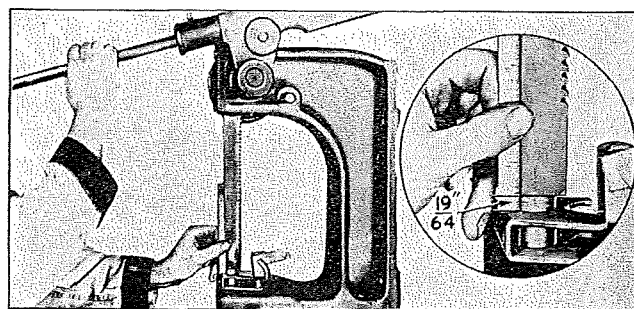
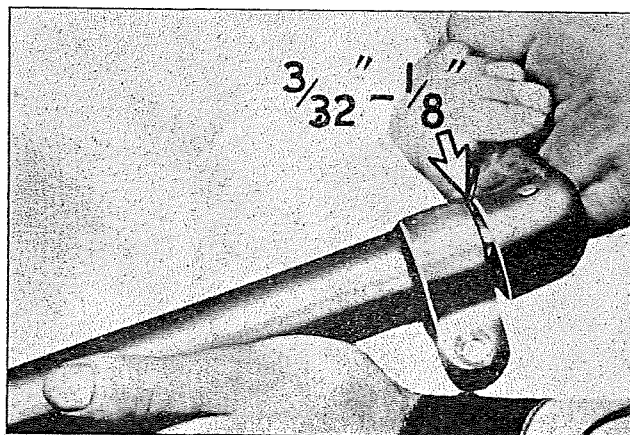

Fig. 13—Chevrolet 1940-42
Fig. 14—Chevrolet 1940-42. Upper Support Position
ASSEMBLE: (See Fig. 14.) (1)—Coat gearshift lever lightly with graphite grease and screw it into
upper support until the shoulder of the upper support extends above the support about $\frac{1}{8}$ ". (2)—Thread the control shaft through the upper support and swivel. (3)—Install the pivot pin spring, and assemble the pivot pins into the holes in the gearshift lever swivel. (4)—Thread the anti-rattle spring into the holes in the pivot pins. (5)—Snap the end of the anti-rattle spring over the control shaft lever. (6)—Install the gearshift lever anti-rattle coil spring. (7)—Coat the ball and spring on the end of the control shaft lever lightly with graphite grease. (8)—Thread the gearshift lever over the control shaft lever and anti-rattle spring. (9)—Compress pivot pins, and at the same time, press down on top of the lever until the pivot pins snap into place. (10)—(See Fig. 13.) If a new bushing is to be installed in the lower support, press it in place until the distance from the end of the bushing to the face of the lower support is $\frac{19}{64}$ ". (11)—Install lower support assembly to mast jacket, being sure to engage the key; then tighten the clamp bolts JUST SNUG. (12)—(See Fig. 14.) Screw the upper support up or down on swivel until the distance between lower edge of gearshift lever and top of support is from $\frac{3}{32}$ " to $\frac{1}{8}$ ". (13)—Thread the toe-board grommet over the control shaft and through the rubber bushing in the lower support. (14)—Attach upper support to mast jacket. (15)—Replace clamp bolt which fastens instrument panel to mast jacket. (16)—Assemble spring and